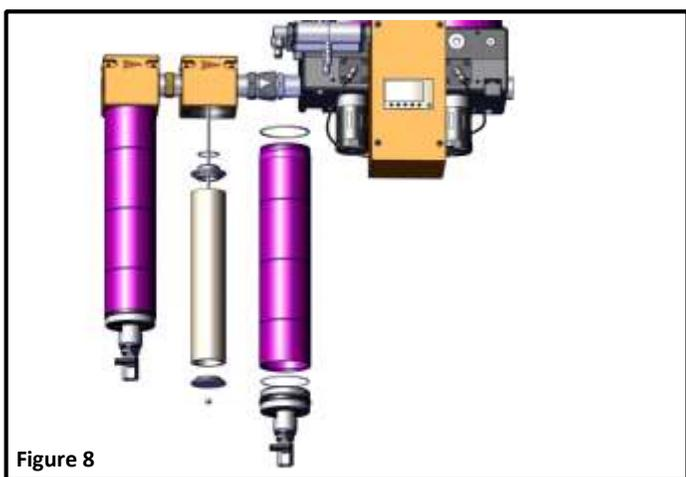

Figure 8
4. Remove bottom baffle, filter element, top adaptor, and O-ring. *Figure 8*